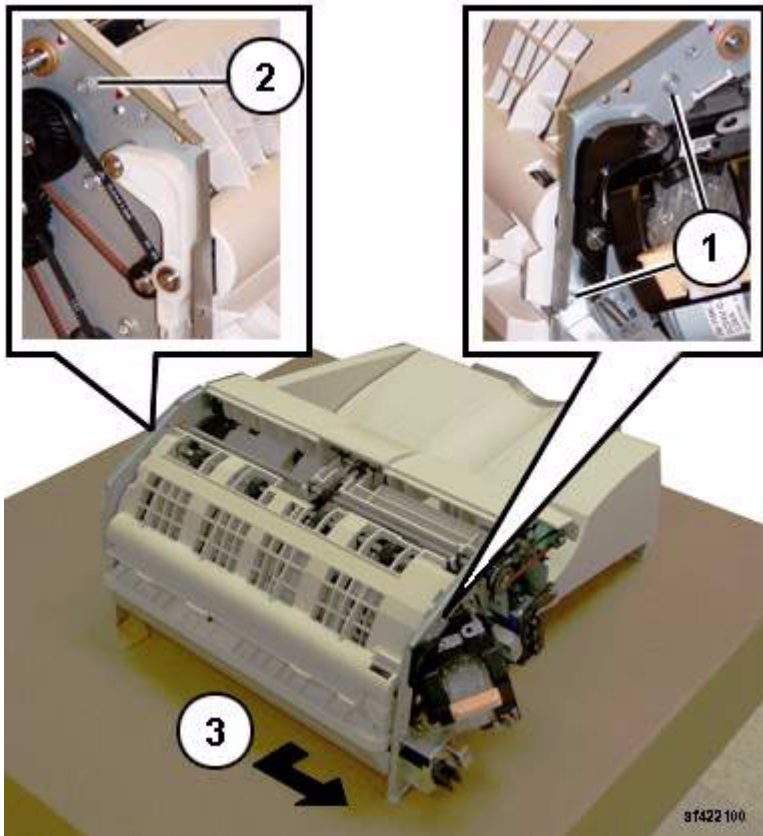

Figure 2 Removing the Upper Chute Assembly (af422100)
6. Remove the Upper Chute Assembly. (Figure 2)